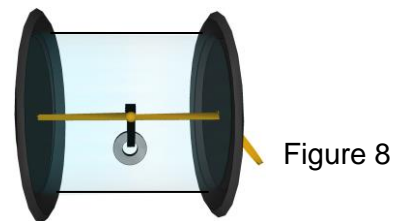

Figure 8
- 12** Hold the Rollback Can horizontally so that the washers hang down at a right angle to the rubber bands. Check that the washers do not touch the cylinder. See figure 8.